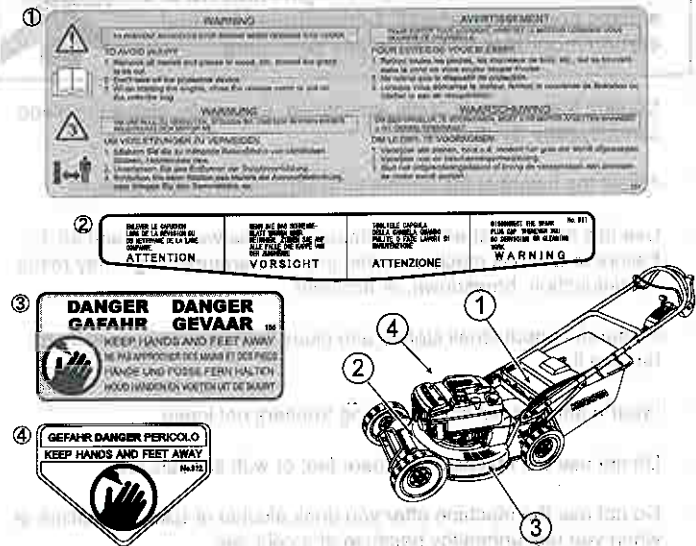

Fig. 1.
- Safety labels are affixed on the lawn mower as shown in Fig. 1.